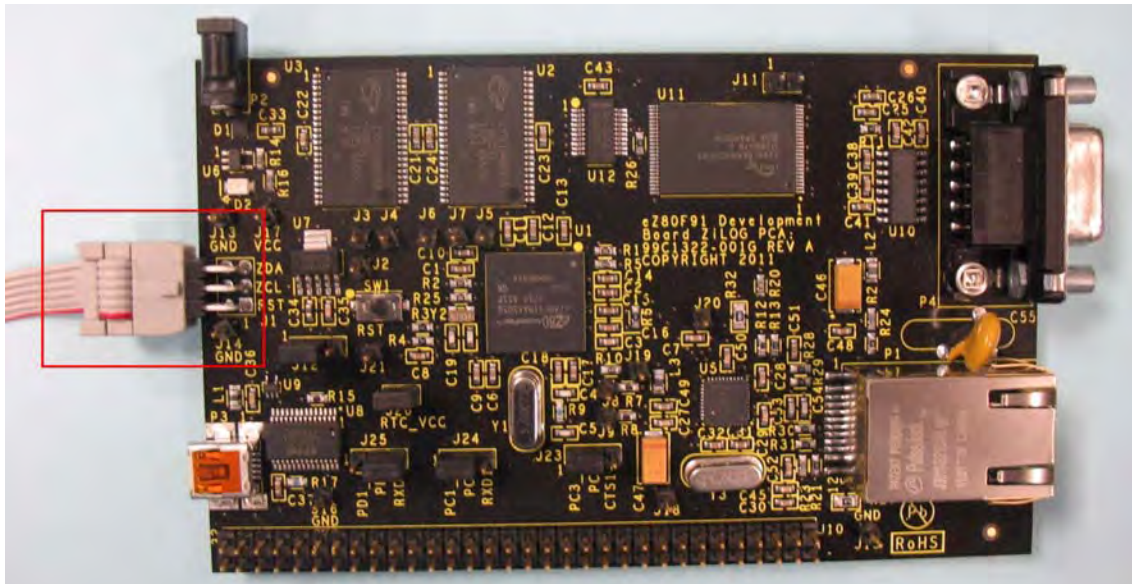

Figure 4. Debug Connector J1
2. Connect the other end of the ribbon cable to Debug Connector J1 on the Development Board. Ensure that Pin 1 on the ribbon cable is aligned with Pin 1 on the target connector, as highlighted in Figure 4.